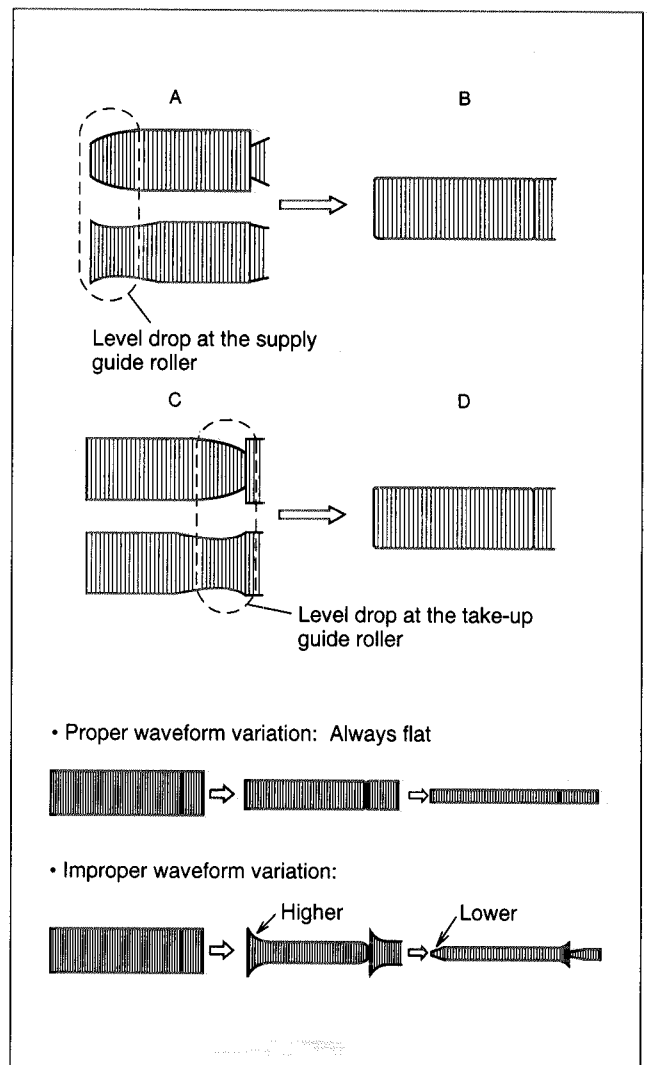

Fig. 2-3-3
- (5) Reduce the FM waveform while pressing the channel buttons (+, -) during playback. If a drop in level is found on the left side, turn the guide roller of the pole base assembly (supply side) with the roller driver (PTU94002) to make the FM waveform linear. If a drop in level is on the right side, likewise turn the guide roller of the pole base assembly (take-up side) with the guide roller to make it linear. (See Fig.2-3-3.)
- (6) Then play MHPE-L and make sure that the FM waveform varies in parallel and linearly with the tracking operation. When required, perform fine-adjustment of the guide roller of the pole base assembly (supply or take-up side).
- (7) Unload the cassette tape once, play the alignment tape MHPE-L again and confirm the FM waveform.